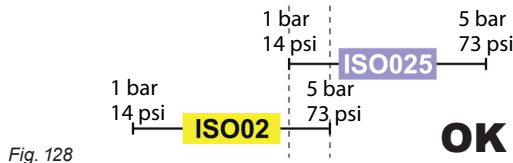

Fig. 128
- **Compatible nozzles:** the flowrate at 1 bar - 14 psi of the ISO025 nozzle is LOWER than the flowrate at 5 bar - 73 psi of the ISO02 nozzle (Fig. 128).